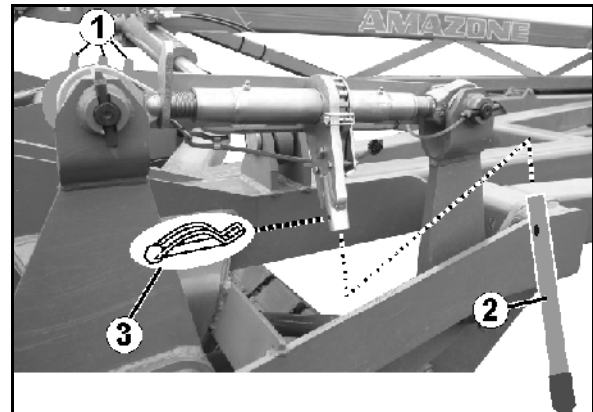

Fig. 44
The scale (Fig. 44/1) helps you to set the spindles to the same length.
2. Secure the hand lever (Fig. 44/2) with linch pin (Fig. 44/3) to the ratchet (Fig. 44).